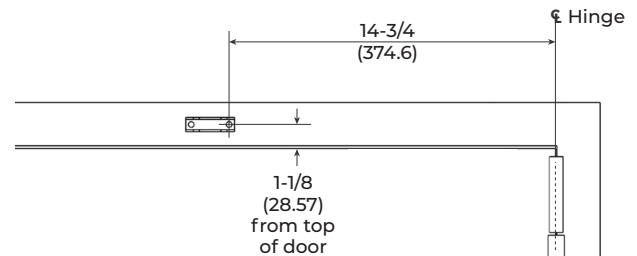

Figure 2 Left Hand Shown
1. Using the template, mark the location of the first hole. (Figure 2)